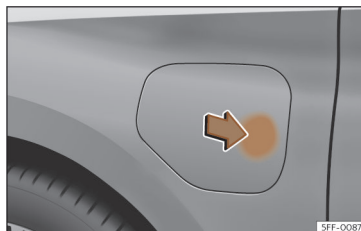

Fig. 59 Opening the charging socket cover.
- If the vehicle is unlocked, the battery charging cover opens when the indicated zone is pressed >>> **Fig. 59.**